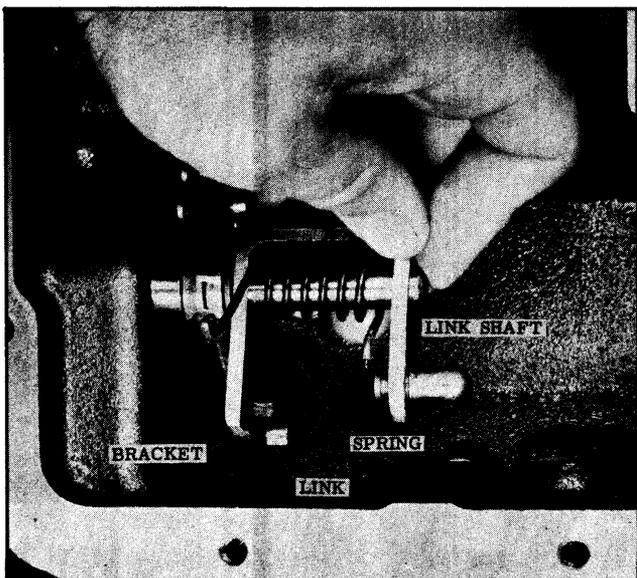

Fig. 3-54 Installing Bracket & Spring
6. Install bracket and spring on the shaft. (See Fig. 3-54)